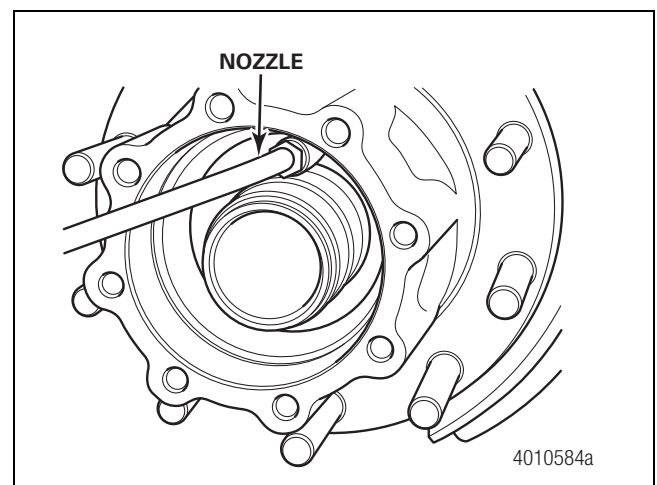

Figure 7.2
- Insert a filling nozzle into the hub cavity and fill with approximately 6-9 oz. (177-266 ml) of axle lubricant. Figure 7.2.